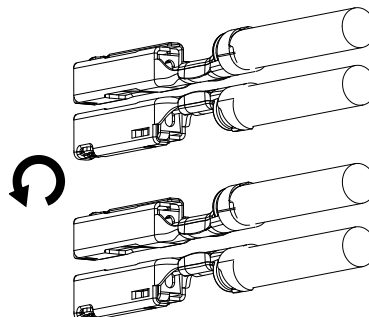

Figure 3
*Lower terminal row is oriented 180° from upper terminal row as shown in Figure 3.*
Make sure to follow the position of terminals provided in Figure 3 with the proper wire size range to prevent incorrect insertion of terminals.